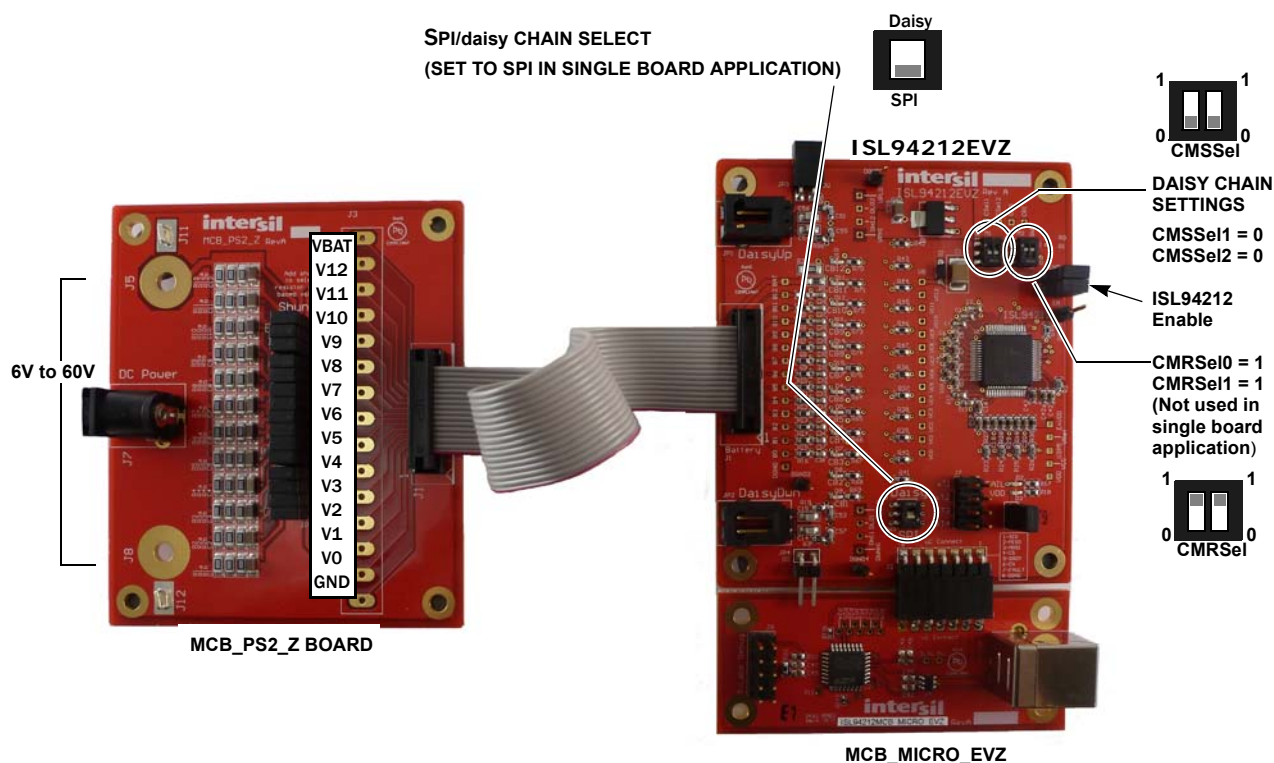

FIGURE 3. ISL94212EVKIT1Z SINGLE BOARD SETUP
**Step 2:** Connect the MCB\_MICRO\_EVZ board (J1) to the ISL94212EVZ board (J2). (See Figure 3)